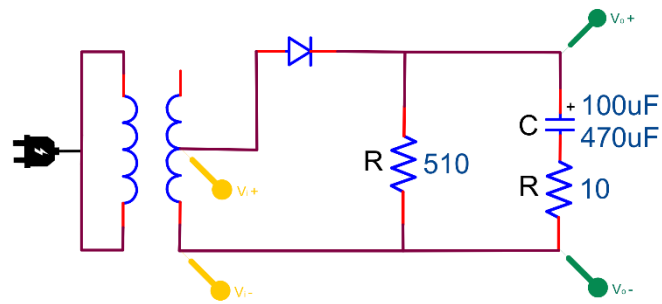

Figure 4.7
3. Construct Figure 4.7 and use the oscilloscope to measure this resistor voltage and the ripple voltage. Note that this voltage is proportional to the current flowing through the capacitor during charge and discharge. What is the relationship between the percent ripple and the value of the capacitor used?